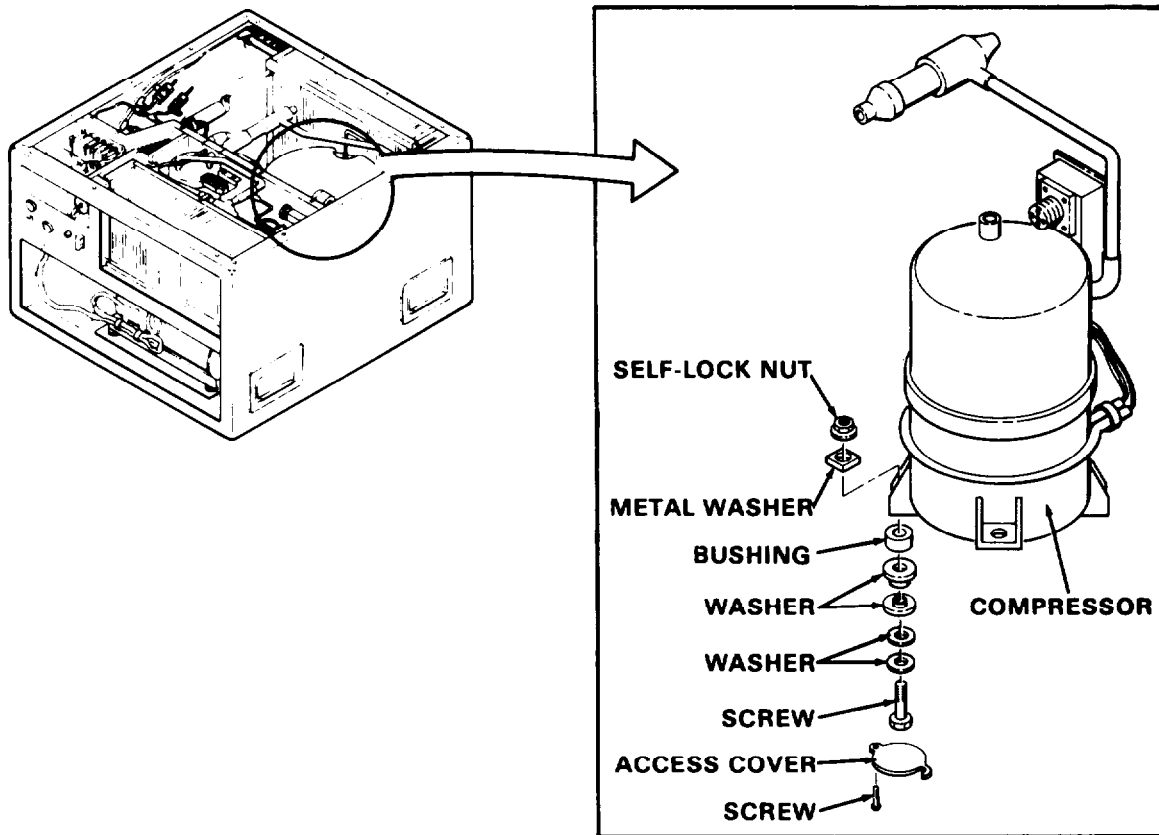

Figure 5-15. Compressor
- b. Removal. Refer to figure 5-15 and remove compressor as follows:
- (1) Refer to figure 5-15, place compressor on mounts and install four compressor mount bushings. Secure compressor with four screws, washers and lock washers. Install bolt access plates.
- (2) Connect compressor tubing. Refer to paragraph 5-20 and install new dehydrator.
- (3) Refer to paragraph 6-3 and leak-test connections.
- (4) Connect electrical connector P6.
- (5) Refer to paragraph 4-33 and install condenser motor and motor supports.
- (6) Refer to paragraph 6-3 and purge the refrigerant system.